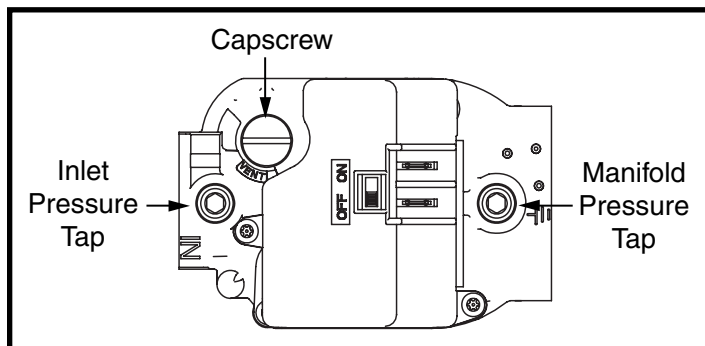

Figure 8. Regulator Capscrew & Tap Locations
- Remove the regulator capscrew (Figure 8) from the INLET side of the regulator.